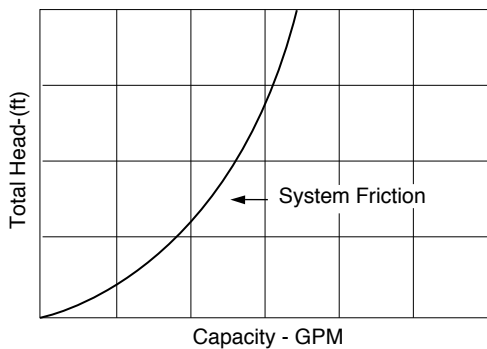

FIGURE 51. System Curve of a Simple Pump System
- The system curve can be plotted using the friction-loss data, expressed as feet of head, versus the capacity (Figure 51). At zero capacity there is no friction loss because there is no flow.